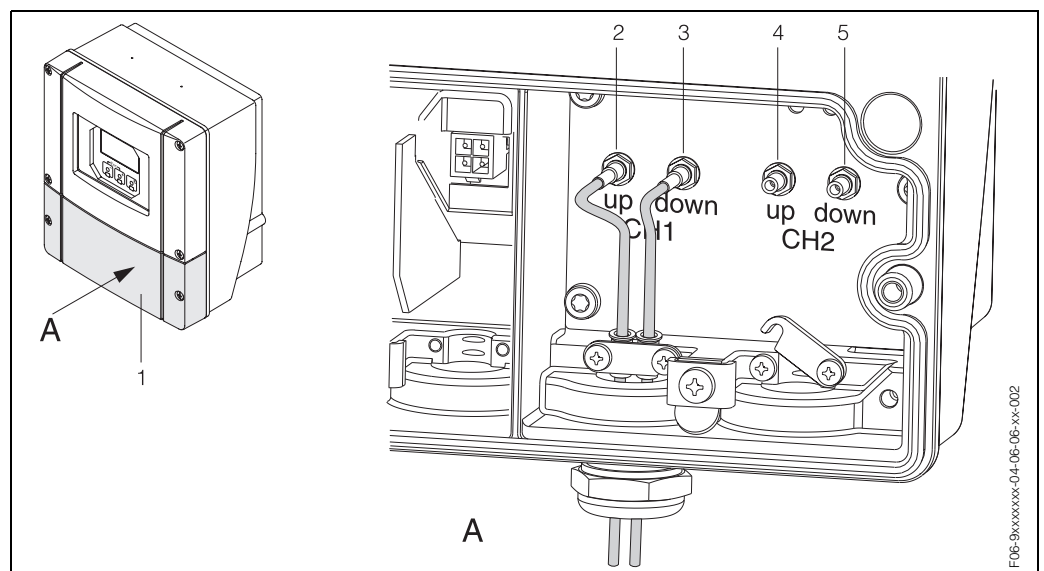

Fig. 17: Connecting the measuring system
1. Transmitter: Loosen the screws and remove cover (1) from the connection compartment.
3. Disassemble the special cable entry which is supplied with the sensors. Run both sensor connection cables through the cover (6) of the cable gland and into the connection compartment.
4. Position the cable fixing sleeves (9) of both sensor cables exactly next to each other (Detail B). Push in the earth contact terminals (10) and screw tight. This ensures perfect grounding.
5. Spread the rubber seal (7) along the side slit with a suitable tool (e.g. a large screwdriver) so that both sensor cables can be fixed into place. Push up the rubber seal in the cable gland (8). Close the cover of the cable gland (6) so that it is tight.
6. Plug in the sensor cable connectors (11) on the transformer side in the way shown in Fig. 17.
7. Transmitter: Secure cover (1) on the connection compartment.